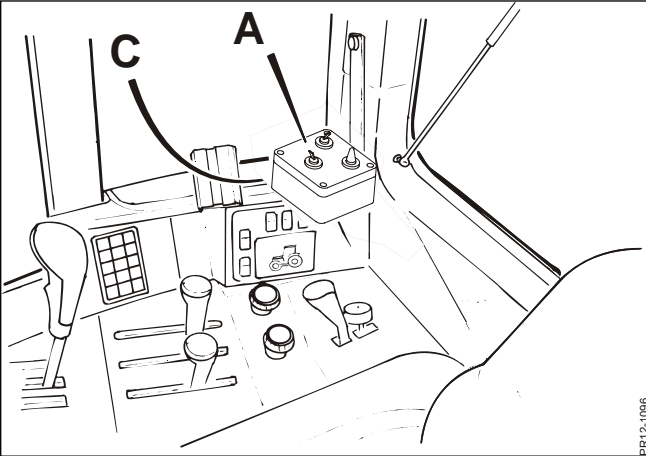

Fig. 2-3
- Fig. 2-3** Mount the holder **C** in a suitable place within the reach of the tractor driver.